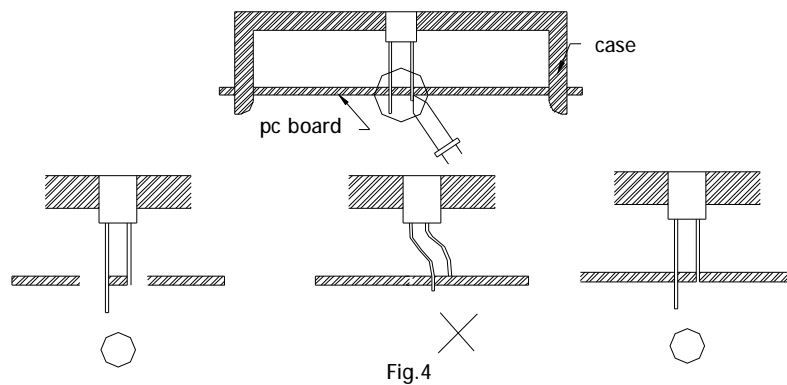

Fig.4
3) When mounting the LED by using a case, as shown Fig.4, ensure that the mounting holds on the PC board match the pitch of the leads correctly-tolerance of dimensions of the respective components including the LED should be taken into account especially when designing the case, PC board, etc. to prevent pitch misalignment between the leads and board holes, the diameter of the board holes should be slightly larger than the size of the lead. Alternatively, the shape of the holes should be made oval. (See Fig.4)